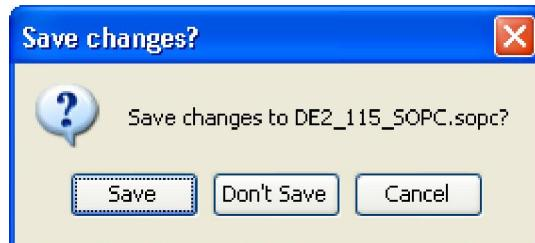
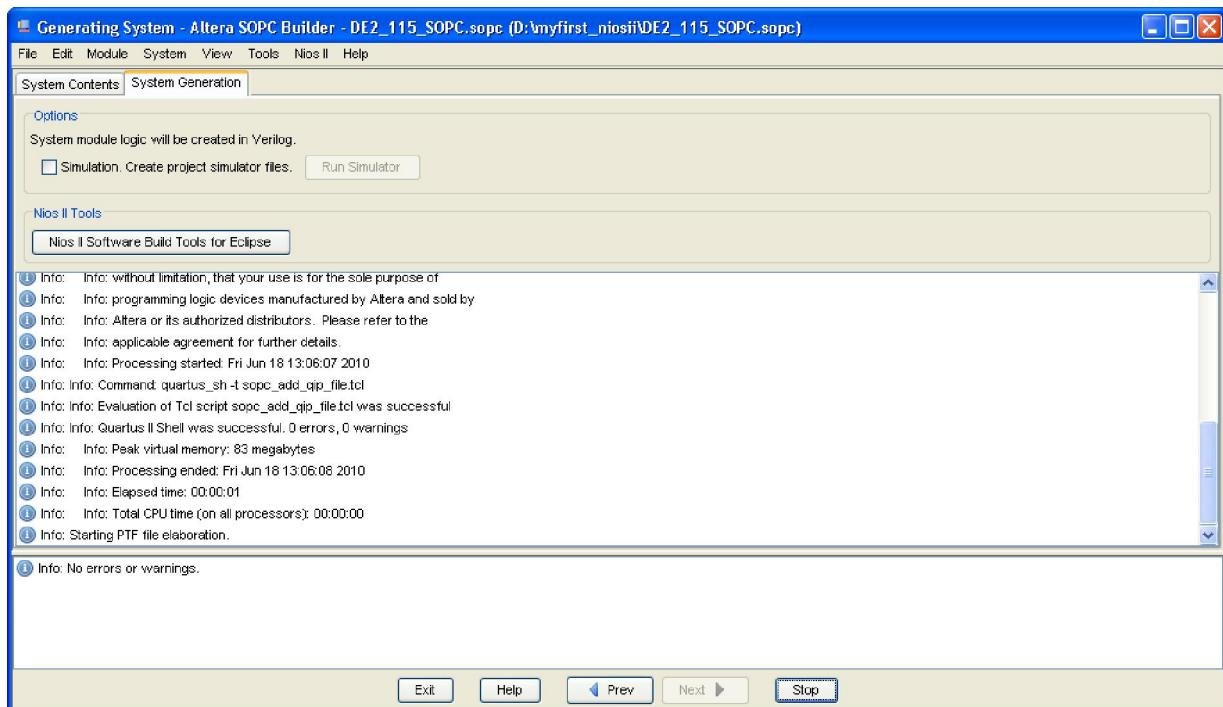
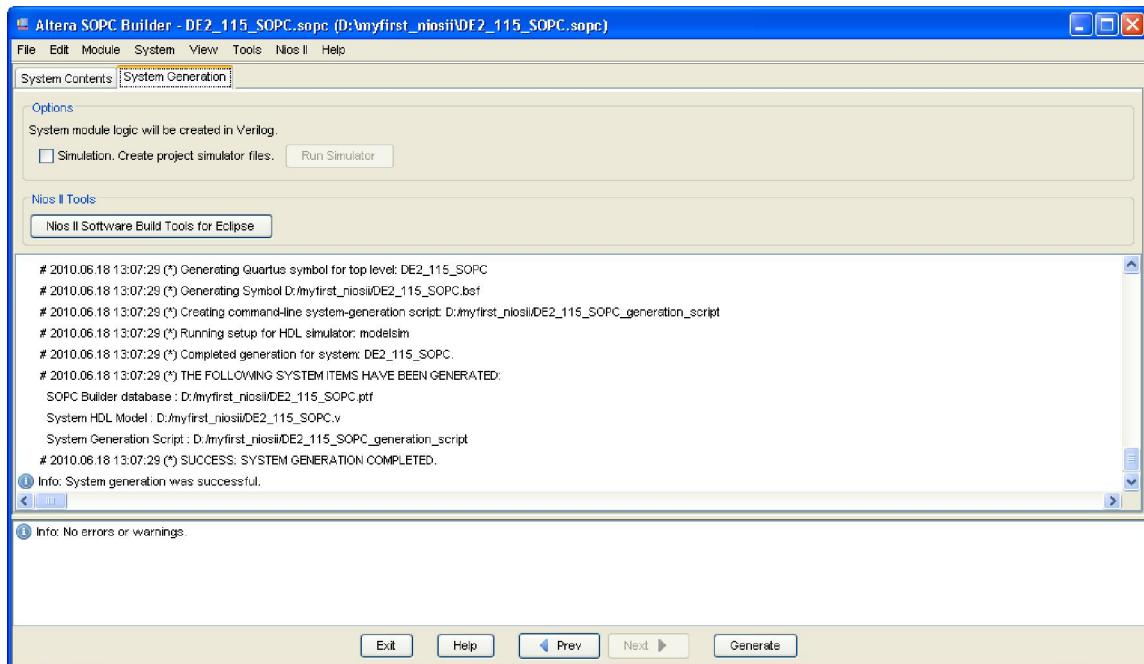

Figure 1-36 Generate SOPC
Figure 1-37 Generate SOPC
Figure 1-38 Generate SOPC Completely
23. Click **Generate** and then pop a window as shown in Figure 1-36. Click **Save** and the generation start. Figure 1-37 shows the generate process. If there is no error in the generation, the window will show successful as shown in Figure 1-38.